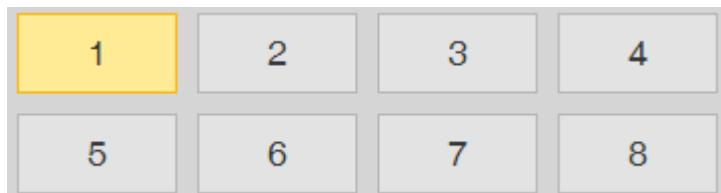

Figure 5-3
Step 2 Select the lens number under the video image successively (as shown in Figure 5-3), then you can add calibration point for video image of corresponding lens.